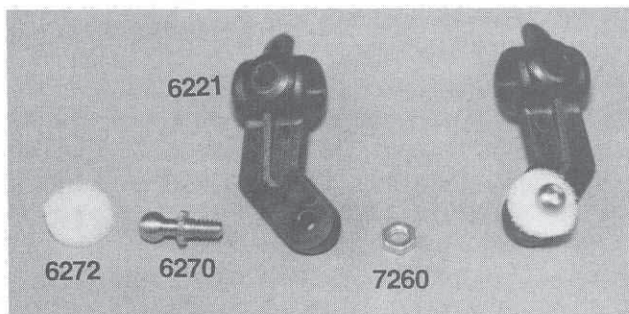

Fig. 3
□ **Fig. 3** 1) Going back to bag #8-1 we will now remove the two #6221 nylon steering blocks. 2) From bag #8-14 we will need to remove two #6270 short S.S. ball ends, two #7260 4-40 small thin pattern plain nuts, and two #6272 foam ball end dust covers. The #6221 steering blocks will be the same until we install the ball ends, then there will be a right and left side. 3) Thread one #6270 ball end into each steering block, but on opposite sides. 4) Now thread on the two 4-40 nuts and tighten them down. 5) Now install two of the foam ball end dust covers over the balls the same as we did in fig. 2. When you are done, your steering blocks will look like fig. 3 and you will now have a left and right steering block. 6) Place the rest of the dust covers aside, for the moment, with bag #8-14; we will use them later in other parts of the manual.
□ **Figs. 6, 7 & 8** Now we are going to install the steering block/axle assemblies into the carrier blocks. 1) If you look closely at the front of the carrier blocks you will see the "R" and "L" that are scribed into them. 2) Look back at fig. 3 and install the left steering block into the left carrier block, then do the same for the right side blocks. Make sure that the ball ends on the assembly will be on the same side (in this case both facing up). 3) Now reinstall the two kingpins into each assembly as shown in fig. 6.